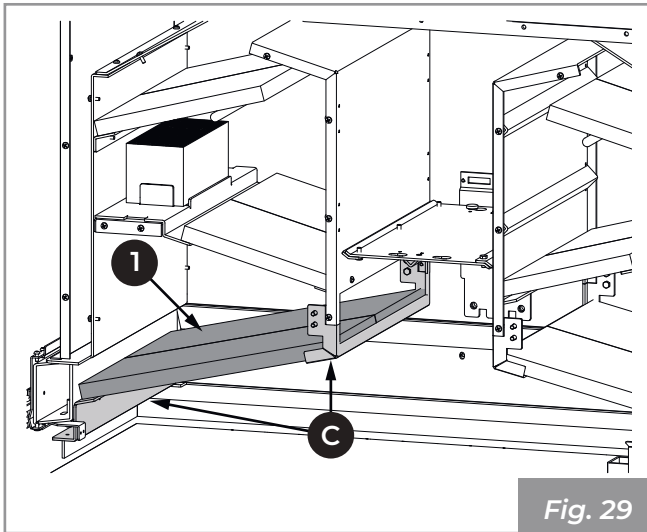

Fig. 29
- 5) Position the panels (1) resting them on the appropriate supports (C) (Fig. 29).